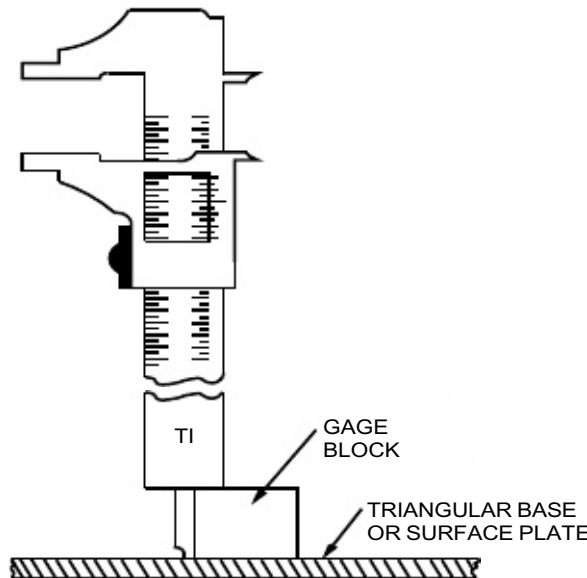

Figure 3.
4.1.19 Refer to Figure 3 and gage on one of the Gage Blocks selected in step 4.1.1.